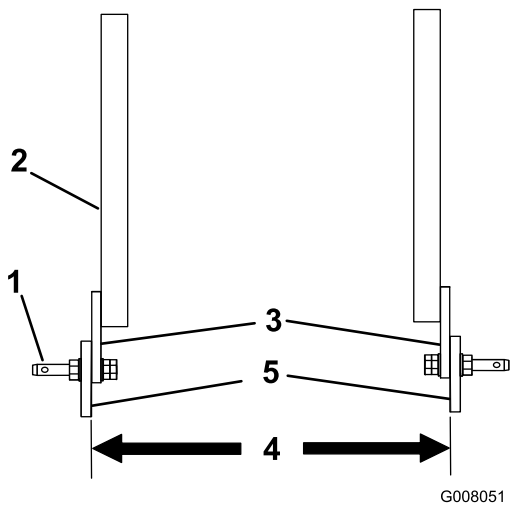

Figure 3
- If the distance between the lower mounting tabs on the aerator is between 26.27 and 28.11 inches (ProCore 864), position the link pins in the support arms with the mounting tabs outside, as shown in Figure 3